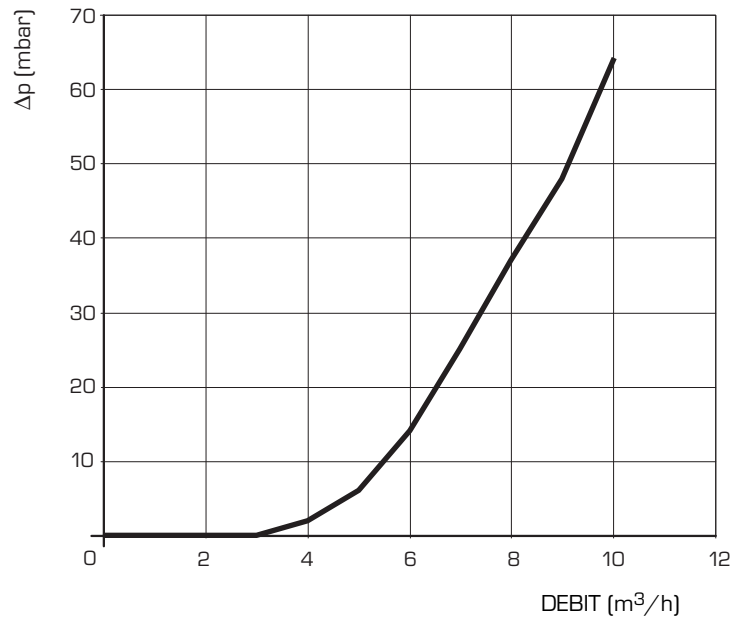

Fig. 3
1.5 PERTES DE CHARGE DU COMPENSATEUR HYDRAULIQUE FOURNI SUR DEMANDE DANS LES KIT COD. 8101550 (fig. 3)